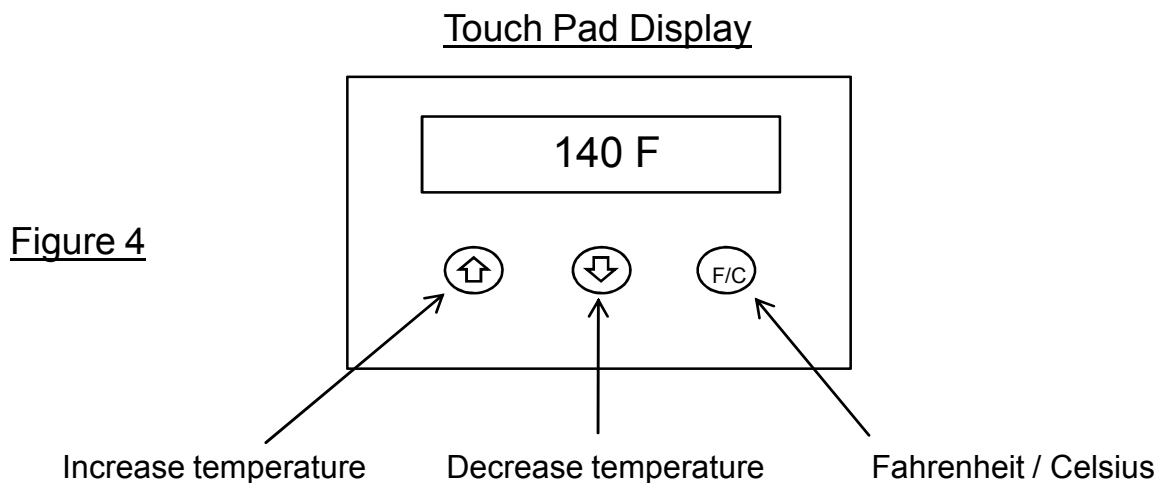

Figure 4
- 4) At this point you may energize the hot water heater. Once energized the Thermostatic control touch pad display on the front cover will illuminate. This is where and when you will program your desired temperature. (Fig. 4)